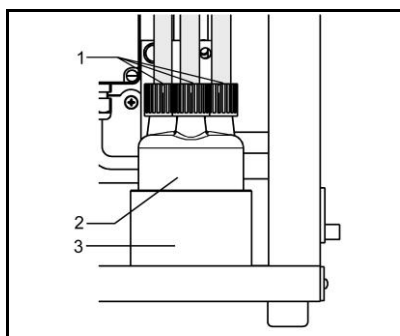

Fig. 19: Separator
1. Unscrew the connecting nozzles (Fig. 19/1).
2. Remove separator (2) from the holder (3) and dispose of contents according to applicable regulations in your area. Then rinse out the separator.
3. Replace separator (2) into the holder (3).
4. Screw the connecting nozzles (1) back on.